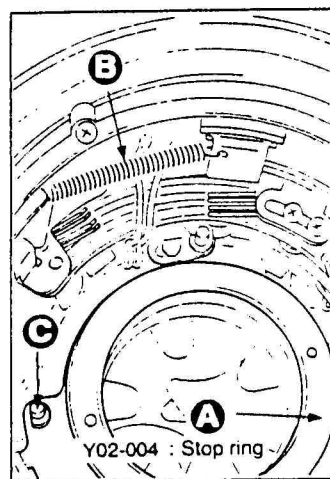

Fig.2
Note : 2) When the front lens ass'y ② is removed, the shutter charge gear or the shutter speed ring ③ comes off. In such a case, disassembly and reassembly work becomes rather difficult. Therefore, it is advisable to fasten temporarily the stop ring ④. (See Fig. 2.)
Note : 3) First, remove the spring ⑤, then remove the rings ④, ⑧, and ⑨. (See Fig. 2.)